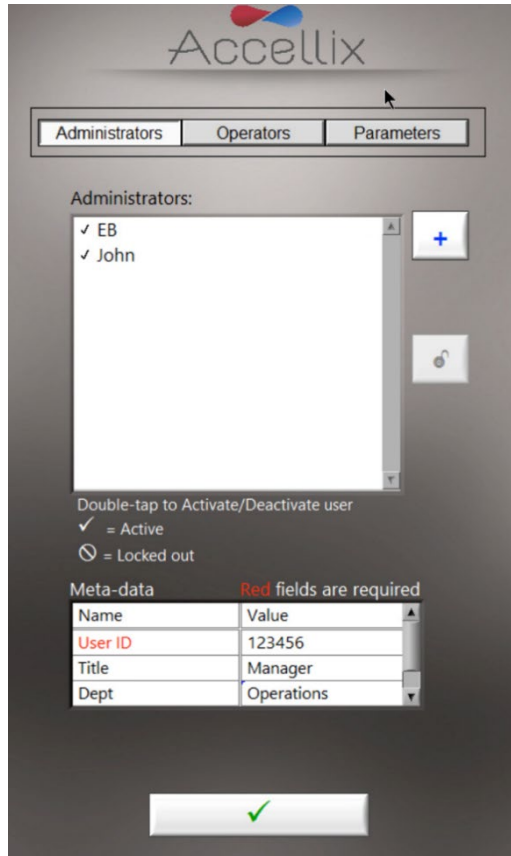

Figure 10: Personnel screen showing example Administrator users with example Meta-data
1. Tap the **Personnel** icon . The **Personnel** screen (Figure 10) is displayed: